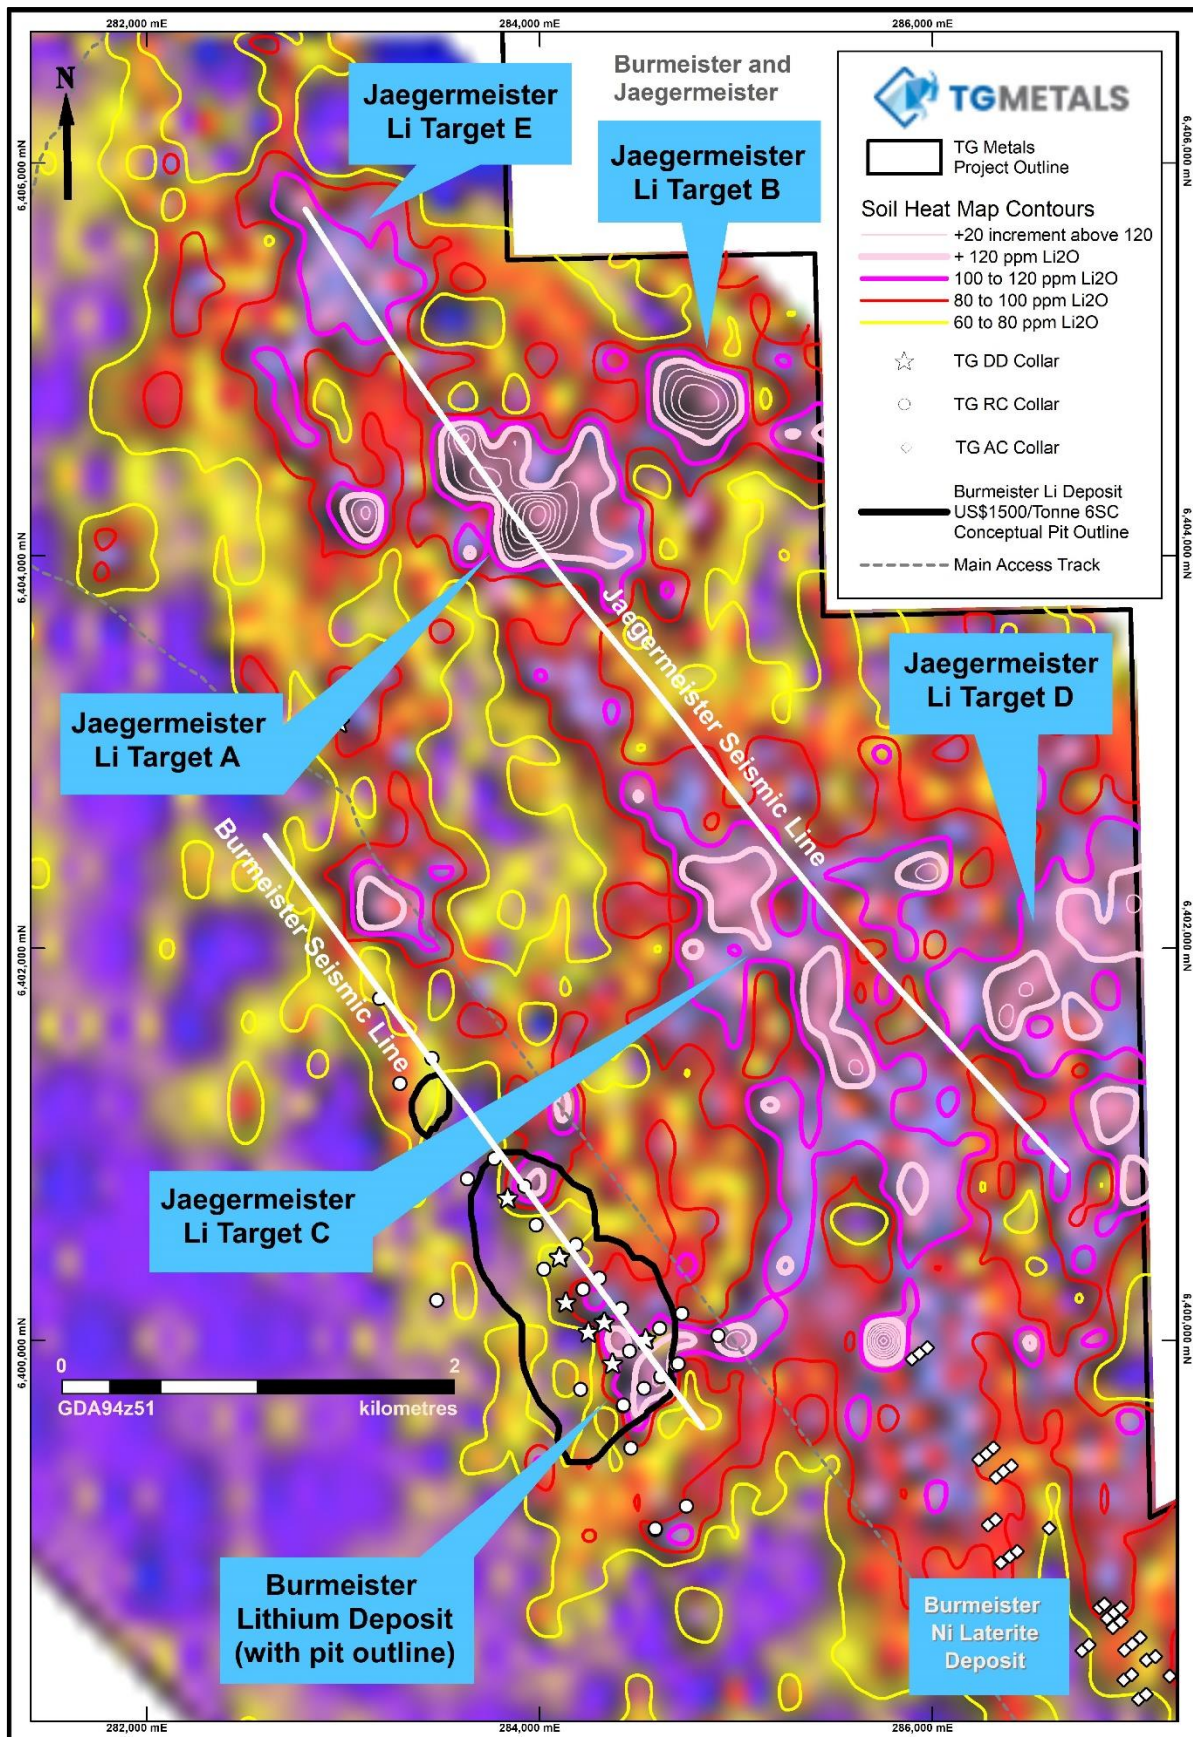

Figure 1 – Lithium soil anomalies showing new Target E. Datum: Zone 51 (AGD84)
The Company has completed infill soil sampling at the Jaegermeister prospect which has resulted in the definition of a new anomaly, Target E, see Figures 1 and 2. This anomaly lies to the north of Target A and has been included in the coverage of the recently acquired seismic field data. Consequently, the number of priority drilling targets has expanded to five (5) at Jaegermeister.
The results from the recently completed seismic survey are in the final stages of interpretation. The interpretations are being conducted by expert independent consultants and are expected to be available within two weeks. The interpretations will guide the existing planned drilling and new phases of drilling over both Burmeister and Jaegermeister, the seismic coverage is shown in Figure 1. The geological model will be continually updated as drilling data comes in and is matched to the seismic interpretation.
The infill soil sampling for the Burmeister and Jaegermeister areas has concluded at this stage. Further drill targeting is likely once the results of the seismic survey data interpretation become available. The two seismic data lines run the length of the Burmeister deposit and take in Jaegermeister Targets E, A and C as shown in Figure 1.